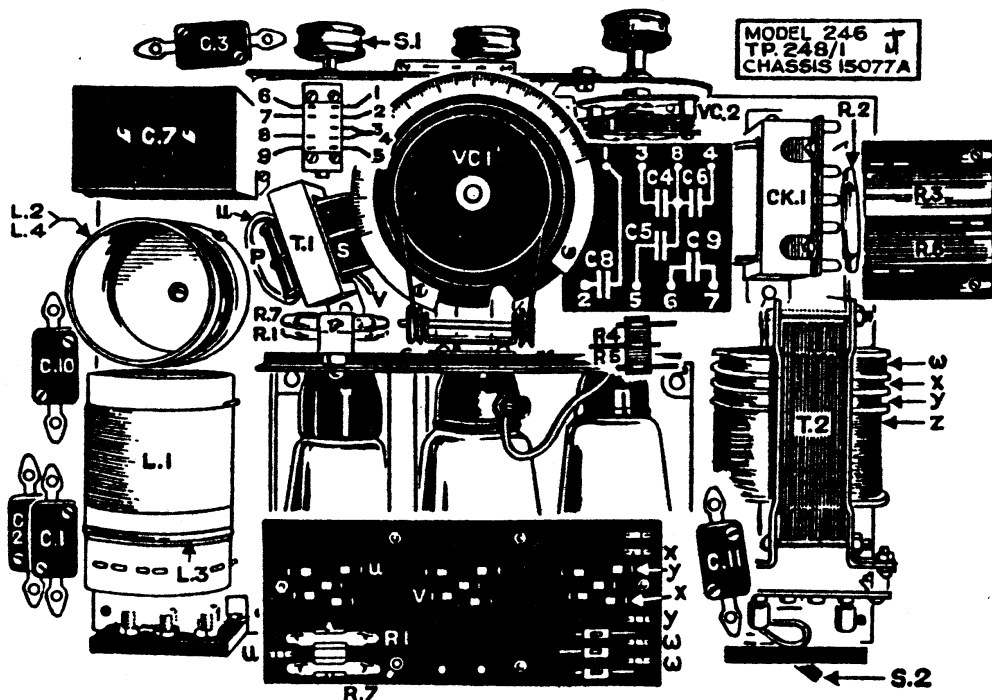

Fig. 3
10. Unsolder contacts having attached to each wire suitable indicating labels for replacement. See Fig. 3 (i.e. pictorial view of top).
Examination of Valve Platform Contacts. (See Fig. 3.) If valve platform and holder contacts prove inaccessible, proceed as for removal of switch, if necessary slightly bending back valve platform to obtain access to contacts.